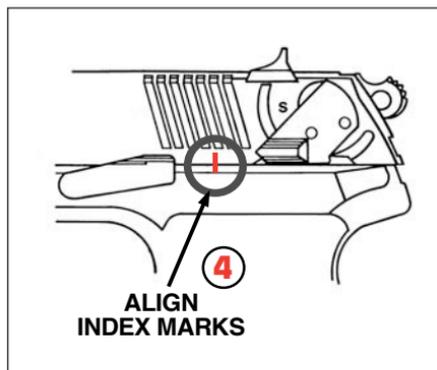

FIGURE 5
4. Remove fingers from ejection port. Grasp slide tightly. Now press down on slide stop and allow slide to move slowly forward until the vertical disassembly line on the frame is aligned with the vertical disassembly line on the slide (see Figure 5, above). Press in on right-hand end of slide stop and pull slide stop out of frame to the left until it is withdrawn completely out of the frame. (See Figure 6, above.)